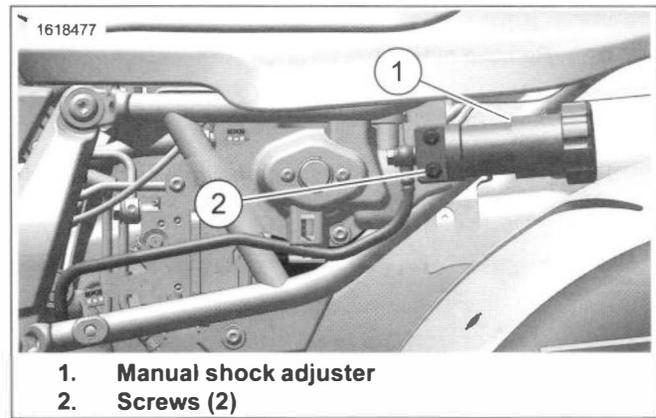

Figure 3-71. Manual Adjuster Knob
1. See Figure 3-71. Remove screws (2) and detach manual shock adjuster (1).
3. See Figure 3-71. Position manual shock adjuster (1) and install screws (2). Tighten.